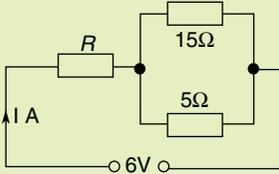

Figure 20
3. Find the value of the resistor R in the circuit of Figure 20.